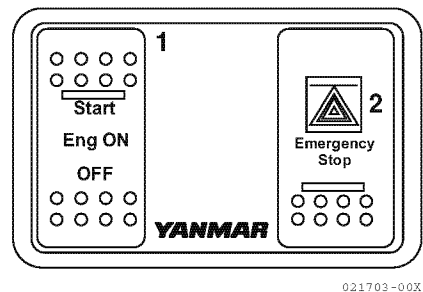

Figure 9
- Eng ON switch (1, **Figure 9**) is wired to 1st station panel.
- Emergency stop switch (2, **Figure 9**) is wired in series with 1st station panel.